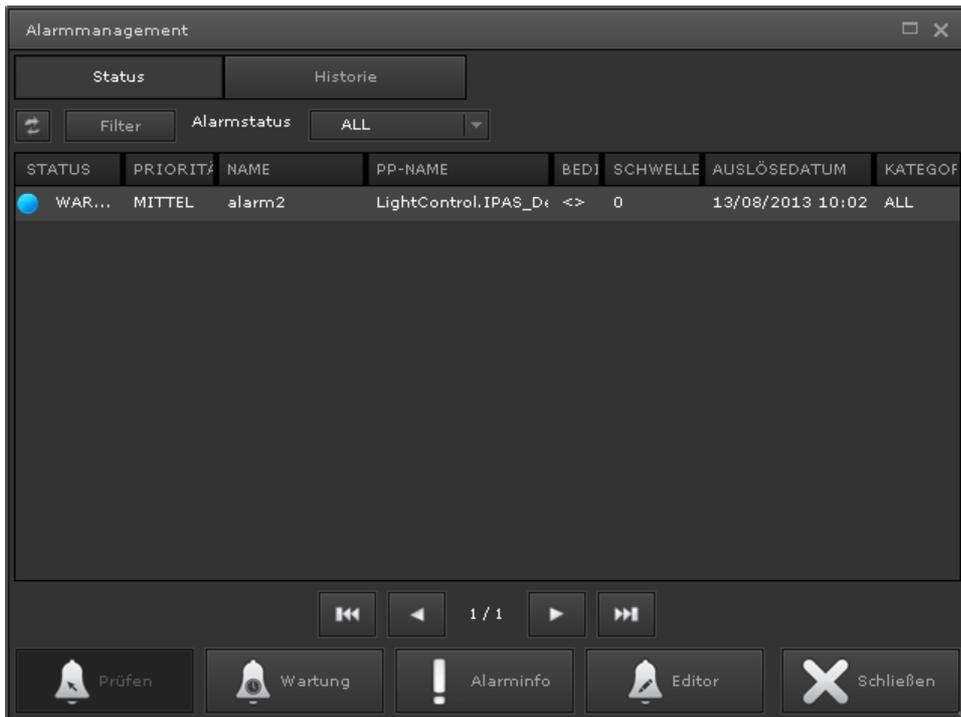

Abbildung 79: Alarm management window
**Recorded data:** Opens the alarm management window shown in Abbildung 79: and lists all alarms. Use *Filter* and *Alarm status* to adjust/restrict the list of alarms displayed.